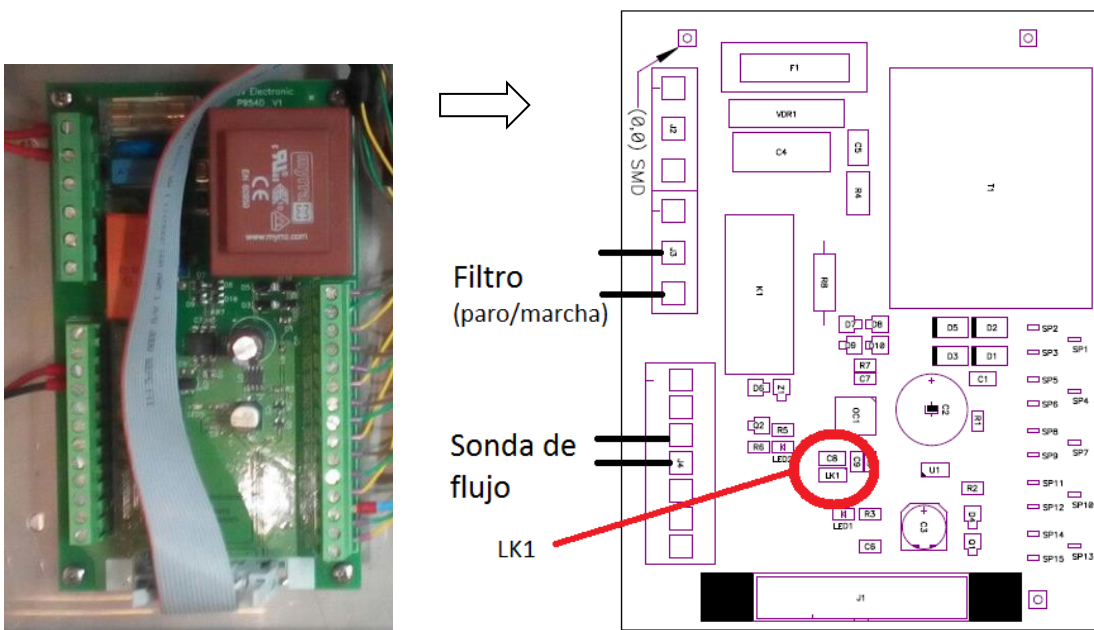

Figure 3.3: Auxiliary connection board
- **Connect the "FILTER" input of the auxiliary board (see figure 3.3) to the filtration pump contactor. This contactor must supply 230V to the "FILTER" input at the same time that the pump is turned on. The power requirements for the "FILTER" input is only a few milliamperes.**